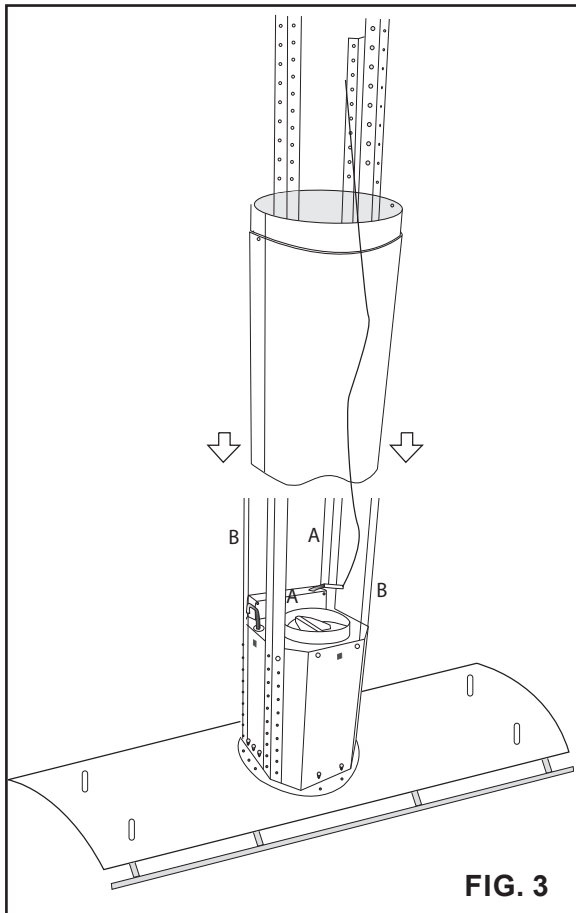

FIG. 3
7. Determine desired height of hood, measure and select either 27 3/8" or 35 3/8" angle brackets. Position and attach angle brackets type A and B to the motor housing as shown using (8) M4*6 screws, (2) for each angle bracket. FIG. 3.
8. Slide duct covers over motor housing. Make sure bottom duct cover with cut-out is facing the front and back of hood. FIG. 3.